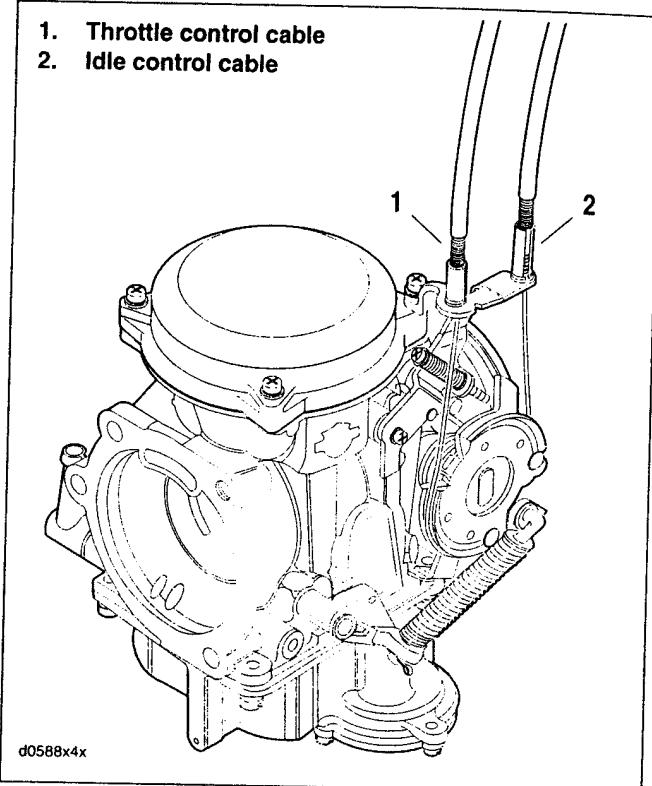

Figure 4-2. Throttle Cables
4. See Figure 4-2. Disconnect the throttle cables (1, 2) from the carburetor.